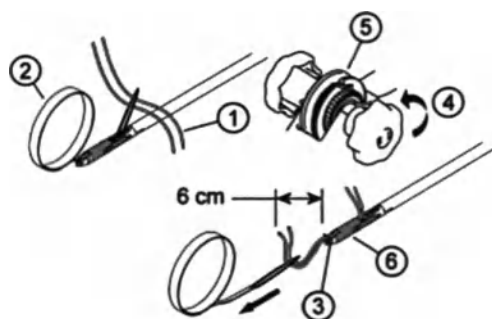

Figure 1 (Item 1-6)
5. Thread the two suture ends through the proximal snare wire loop (Figure 1). Pull the distal snare (Item 2).